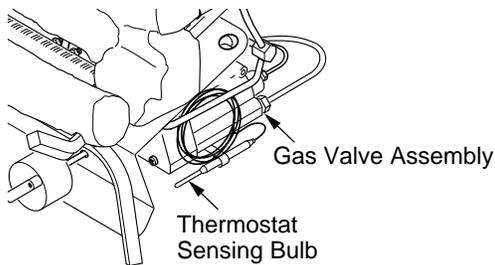

Figure 40 - Location of Gas Valve Assembly and Thermostat Sensing Bulb
1. Locate the gas valve assembly and thermostat sensing bulb (see Figure 40).